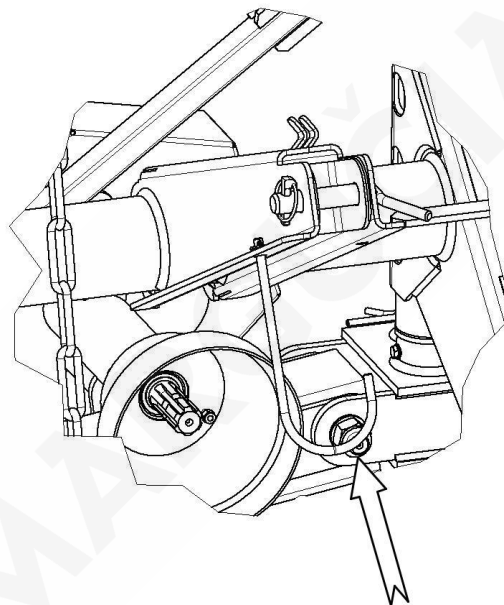

Fig. 11 Holder for articulated telescopic shaft
- remove the articulated telescopic shaft from the tractor PTO and place it in the holder (Fig. 11),
- place safety pin (B),
- remove the articulated telescopic shaft and place it in the holder as shown in (Fig. 11),